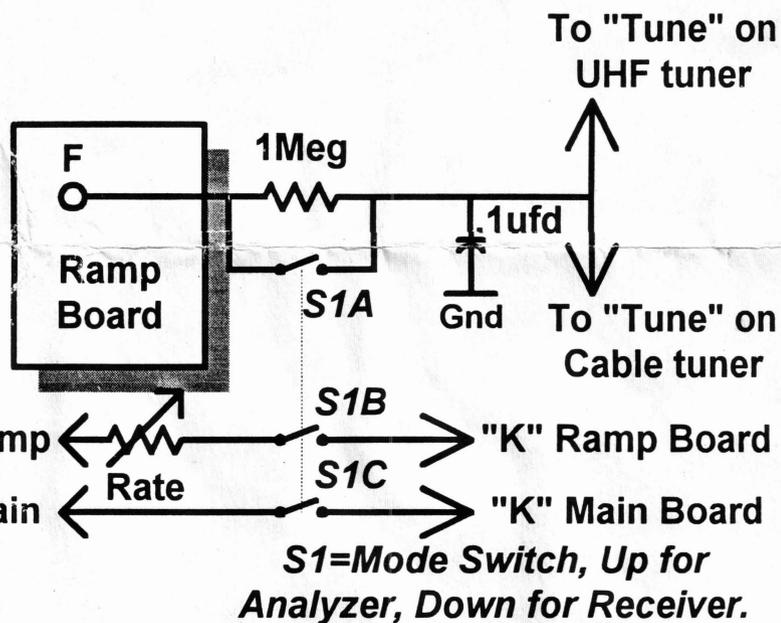

FIGURE 3
Fig. 3 This modification to improve audio reception in the "Receive" mode should be added between "F" on the Ramp Board and the "TUNE" inputs of both tuners, as illustrated. A 3 pole, 2 position "MODE" switch is used to switch between the ANALYZER and RECEIVER modes.
- 2.) Install 2 inductors, 16 resistors and 3 trimpots as in figure 3. Solder the grounded ends of the five resistors marked "X" on both sides of the PC board.